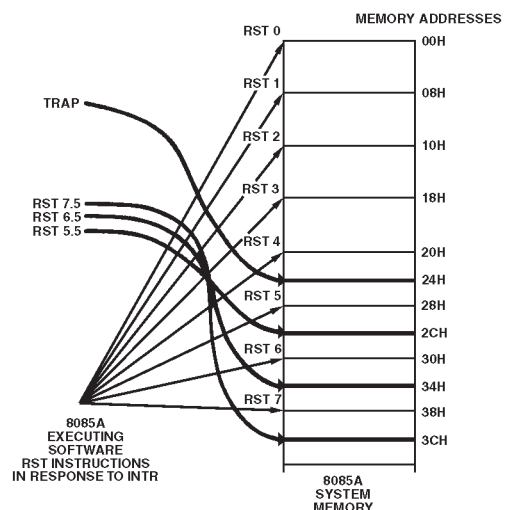
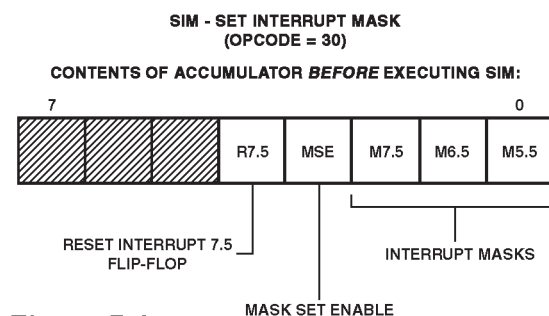
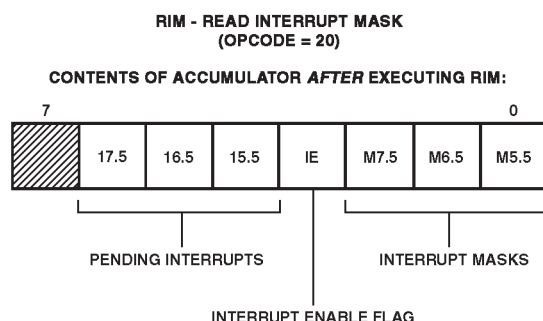

Figure 7-3 8085A HARDWARE AND SOFTWARE RST BRANCH LOCATIONS
Figure 7-4 INTERRUPT MASKS SET USING SIM INSTRUCTION
Figure 7-5 RIM — READ INTERRUPT MASK
The five hardware interrupt inputs provided in the 8085A are of three types. INTR is maskable (can be enabled or disabled by EI or DI software instructions), and causes the CPU to fetch in an RST instruction, externally placed on the data bus, which vectors a branch to any one of eight fixed memory locations (Restart addresses). (See Figure 7-3). INTR can also be controlled by the 8259 programmable interrupt controller, which generates CALL instructions instead of RSTs, and can thus vector operation of the CPU to a preprogrammed subroutine located anywhere in your system's memory map. The RST 5.5, RST 6.5 and RST 7.5 hardware interrupts are different in function in that they are maskable through the use of the SIM instruction, which enables or disables these interrupts by clearing or setting corresponding mask flags based on data in the accumulator. (See Figure 7-4.) You may read the status of the interrupt mask previously set by performing a RIM instruction. Its execution loads into the accumulator the following information. (See Figure 7-5).
- The 8085A executes a SIM instruction, with accumulator bit 4 previously set to 1. (See Figure 7-4).